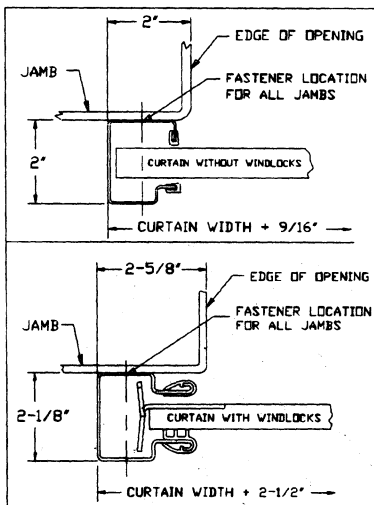

FIGURE 6
- B. The guides should be mounted centered about the opening and spaced curtain width + 9/16" apart for non-windlock doors and curtain width + 2-1/2" for windlock doors. This spacing is measured from back of guide to back of guide. See figure 6. Both guides must be plumb.